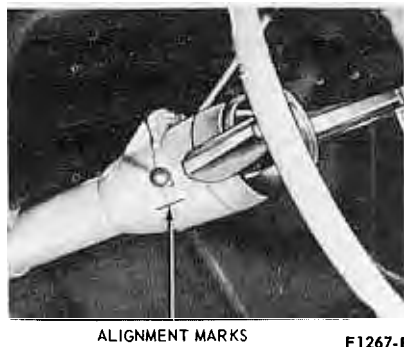

FIG. 5—Straight Ahead Position Marks—Typical
1. Drive the car in a straight line far enough to establish the straight-ahead position of the front wheels, and mark the steering wheel hub and the steering column collar (Fig. 5). **Do not adjust the steering wheel spoke position at this time.** If the front wheels are turned at any time during the inspection, align the marks to bring the wheels back to the straight-ahead position.